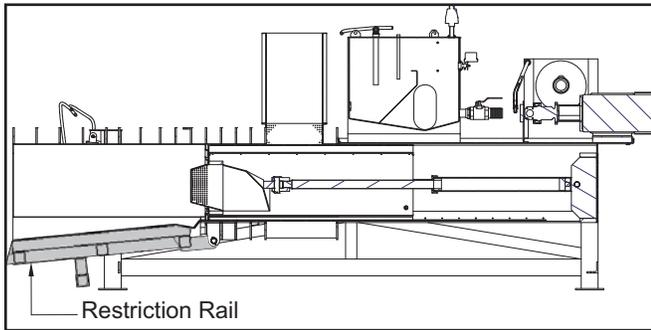

Figure 19 - Restriction Rail Lowered
**Restriction rail** The restriction rail (Figure 19), provides a variable restriction (modulation) on the passage of product to the discharge. This restriction regulates the force required from the plunger to push the product toward the discharge. It is the compressing action of the plunger that forces the water from the product. The water is evacuated through the drain holes.